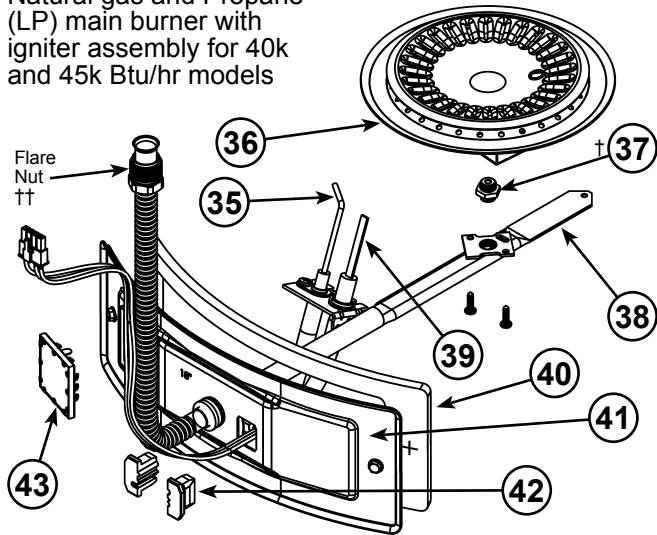
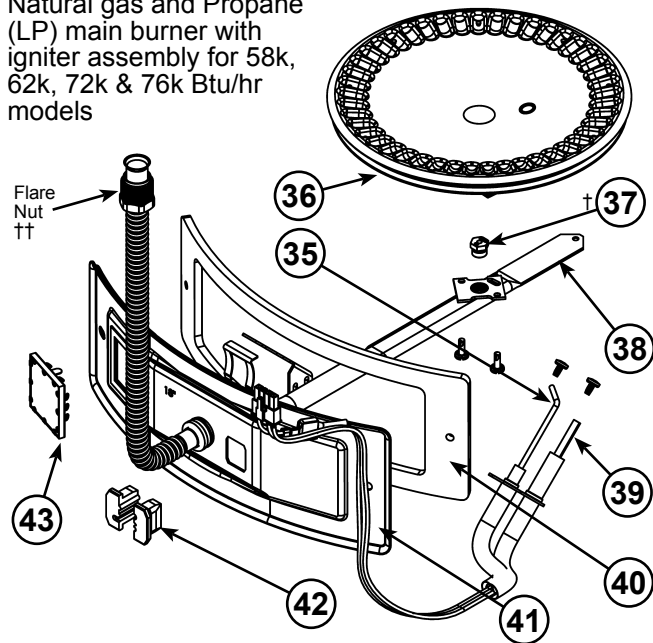

Figure 48
Figure 49
- 15 Manifold Door Assembly (behind outer door) (see Figure 3 & Figure 4) (see also **Figure 48 & Figure 49**)
- 35 Flame Sensor Rod (see Figure 3 & Figure 4) (see also **Figure 48 & Figure 49**)
- 36 Sheet Metal Burner (see Figure 3 & Figure 4) (see also **Figure 48 & Figure 49**)
- 37 Gas Orifice (see Figure 3 & Figure 4) (see also **Figure 48 & Figure 49**)
- 38 Gas Manifold (see Figure 3 & Figure 4) (see also **Figure 48 & Figure 49**)
- 39 Hot-Surface Igniter (see Figure 3 & Figure 4) (see also **Figure 48 & Figure 49**)
- 40 Manifold Door Gasket (see Figure 3 & Figure 4) (see also **Figure 48 & Figure 49**)
- 41 Manifold Door (see Figure 3 & Figure 4) (see also **Figure 48 & Figure 49**)
- 42 Two Piece Grommet With Clip (see Figure 3 & Figure 4) (see also Figure 48 & **Figure 49**)
- 43 Viewport (see Figure 3 & Figure 4) (see also **Figure 48 & Figure 49**)